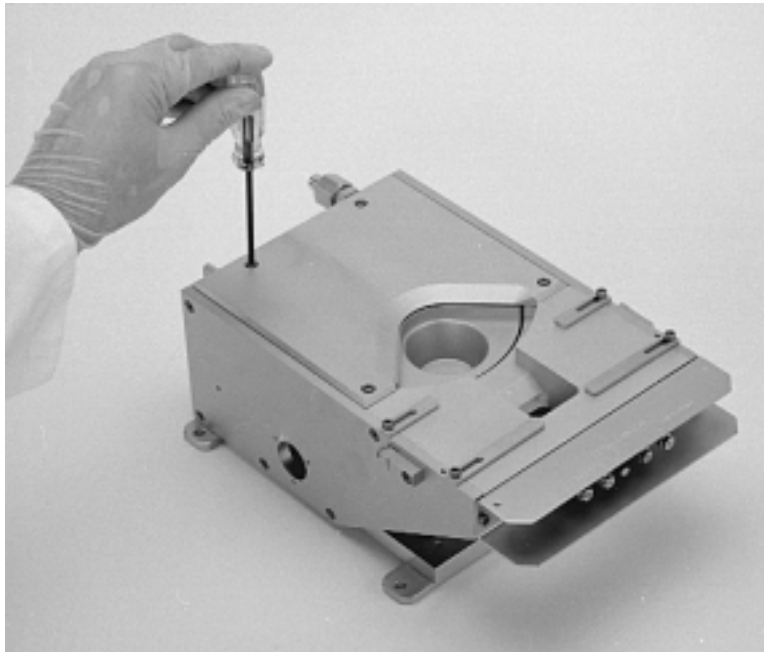

Figure 5-4. Removing the crucible cover
Step 4: Using the Allen tool provided with the unit, remove the four 8-32 3/8" screws that secure the crucible cover to the coil housing (see Figure 5-4). Then remove the cover.